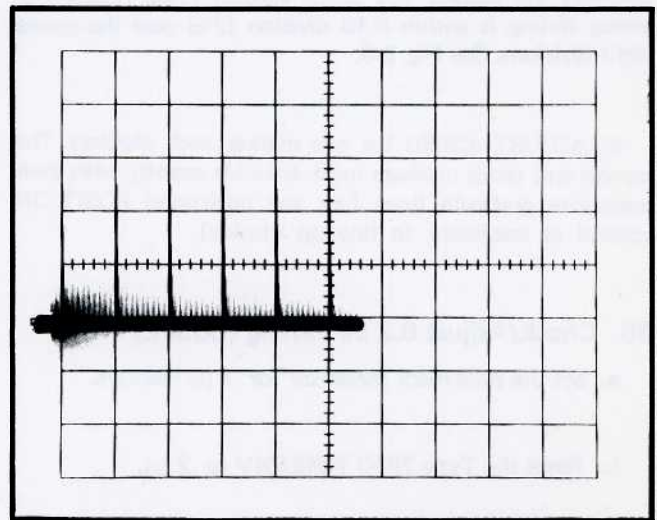

Fig. 5-4. Typical CRT display when checking sweep length.
b. Move the eleventh 1 ms marker to the center vertical line with the horizontal POSITION control (see Fig. 5-4).